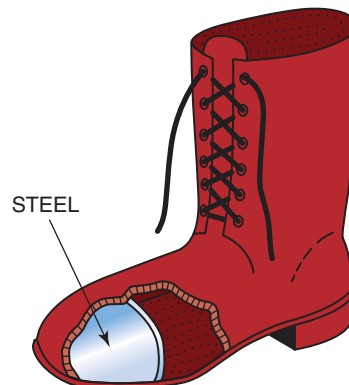

Figure 1.51 Safety boots with steel toes are required by many welding shops
- Boots must have high tops to keep out sparks, have steel toes to prevent crushed toes, Figure 1.51, and have smooth tops to prevent sparks from being trapped in seams.